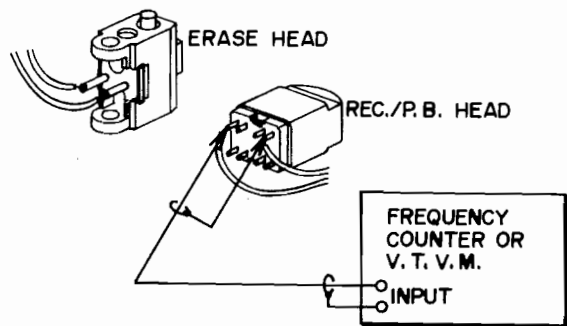
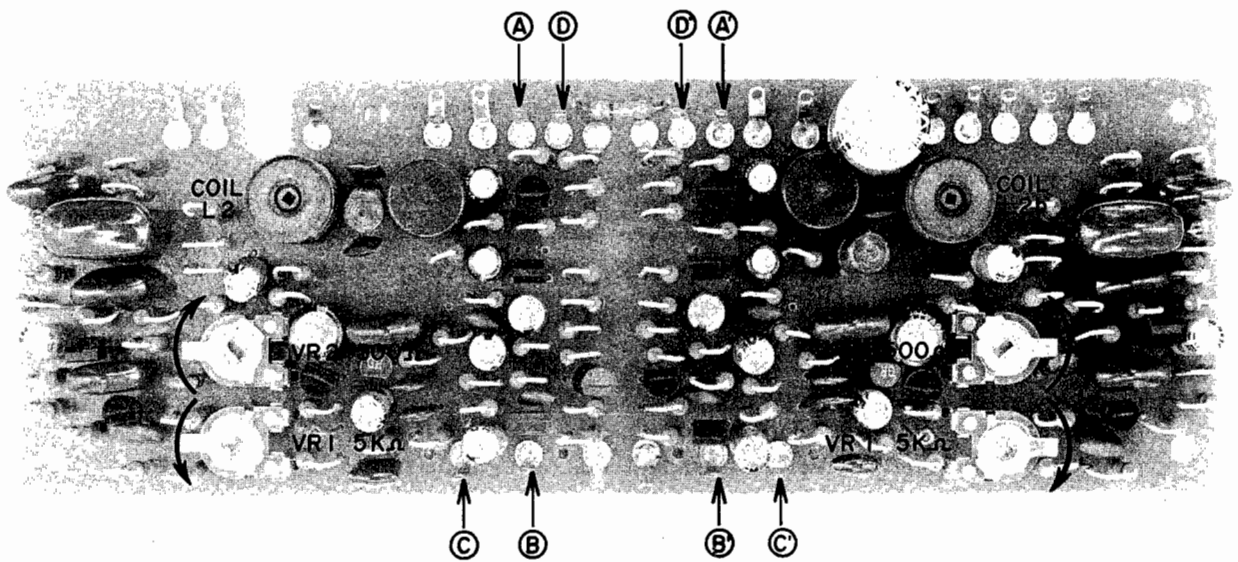

Fig. 24
Fig. 25 Dolby N.R. P.C. Board CP-5003 (Face Side)
(Refer to Fig. 24)
- (1) Set the GXC-75D to recording mode.
- (2) As shown in Fig. 24, connect a Frequency Counter to the coil terminals of the recording/playback head and read indication.
- (3) There is no way to adjust the recording bias frequency, but the correct frequency is 61 ± 3 kHz.
- (2) Connect a V.T.V.M. between the coil terminals of the recording/playback head as shown in Fig. 24 and read indication. Recording bias voltage should be about 3V A.C. with low noise tape and about 4V A.C. with chromium dioxide tape.
- (3) Connect a V.T.V.M. between the coil terminals of the erase head and read indication. Erase voltage should be 27V A.C. with low noise tape and 35V A.C. with chromium dioxide tape.
7. DOLBY N.R. SYSTEM CIRCUIT ADJUSTMENT (Refer to Figs. 25 and 26)
- b) Turn Dolby N.R. P.C. Board (CP-5003) gain adjustment semi-fixed resistors VR2 500B (left channel) and VR2b 500B (right channel) as well as FET gate bias adjustment semi-fixed resistors VR1 5 kB (left channel) and VR1b 5 kB (right channel) as far as they will go in the direction of the arrows shown in Fig. 25.
- c) Turn Dolby N.R. Switch SW20 to OFF position and, as shown in Fig. 24, ground "TP" test point (FET Gate).
- g) At this condition, further adjust the Attenuator so that the line output level at point ① in Fig. 25 is -28.5 dB. (This adjustment must be exactly -28.5 dB) and confirm that the level at point ② is -28.5 ± 0.5 dB.
- h) Next, turn Dolby N.R. Switch SW20 to ON position. Adjust Dolby N.R. P.C. Board gain adjustment semi-fixed resistors VR2 500B (left channel) and VR2b 500B (right channel) until the voltage at point ③ in Fig. 25 is increased by 10 dB.
- i) Disconnect GND (ground) from FET gate. Adjust FET gate bias volumes VR1 5 kB (left channel) and VR1b 5 kB (right channel) until the voltage at point ④ is reduced by 2 dB.